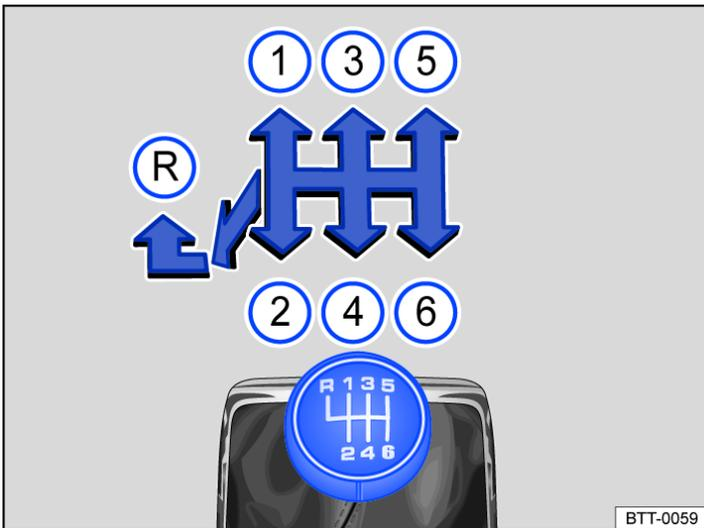

Fig. 1 Gear shift pattern of a 6-speed manual gearbox.
The positions of the individual gears are displayed on the gear lever → Fig. 1.
- Push the gear lever completely to the left and then forwards into the reverse gear position → Fig. 1 (R).